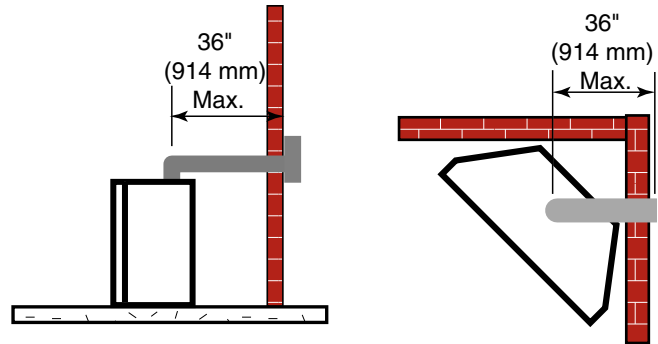

**Figure 15 -**
**Maximum Three (3) 90° Elbows Per Installation**
- A minimum of 24" is required before a 90° elbow. If a 90° elbow is fitted directly after 24" vertical section mounted to the top of the fireplace, the maximum horizontal vent run before the termination or a vertical rise is 36" (914 mm). *Figure 15*